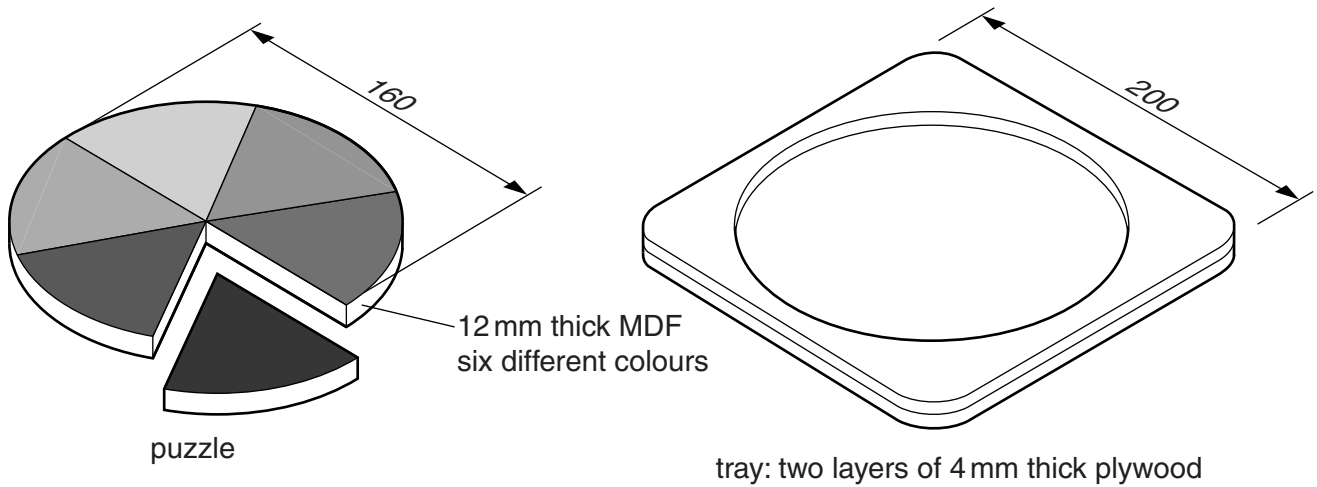

Fig. 10
- 13** Fig. 10 shows details of a child's puzzle and the tray in which the puzzle is placed. The puzzle is made from six pieces of MDF and the tray is made from plywood.
- (c)** The tray shown in Fig. 10 is made from two pieces of 4 mm plywood glued together.